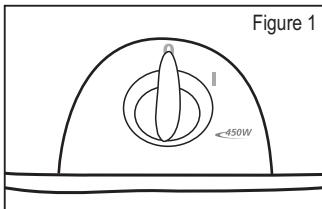

Figure 1
- Turn juice extractor off "O" and unplug it from the electrical outlet (**Figure 1**)